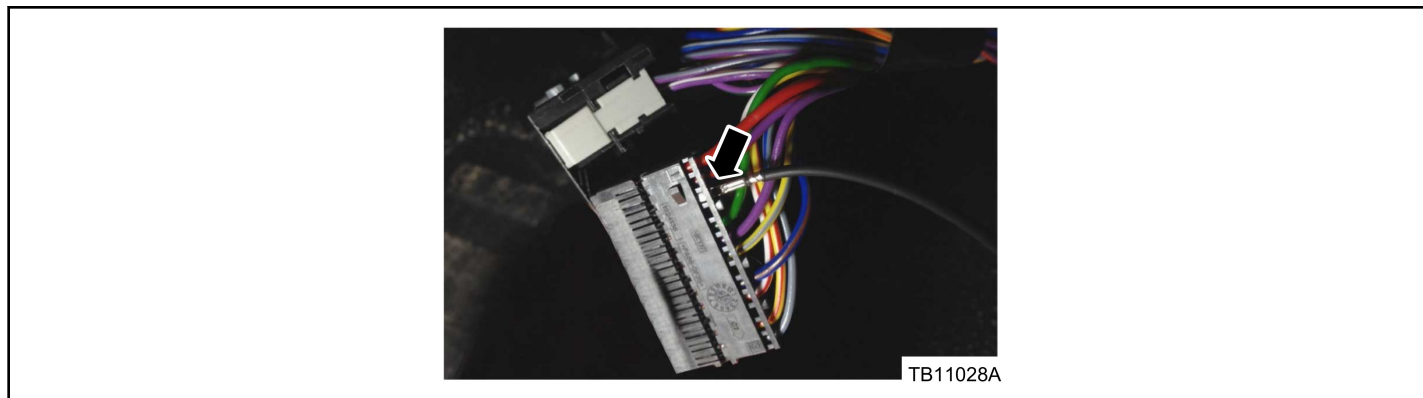

Figure 5 - Article 17-0013
10. Insert the terminal that was spliced to the relay kit into empty cavity 3 of C2280B. Secure the pin in the connector, close the cover and install a new strain relief wire tie strap. (Figure 5)